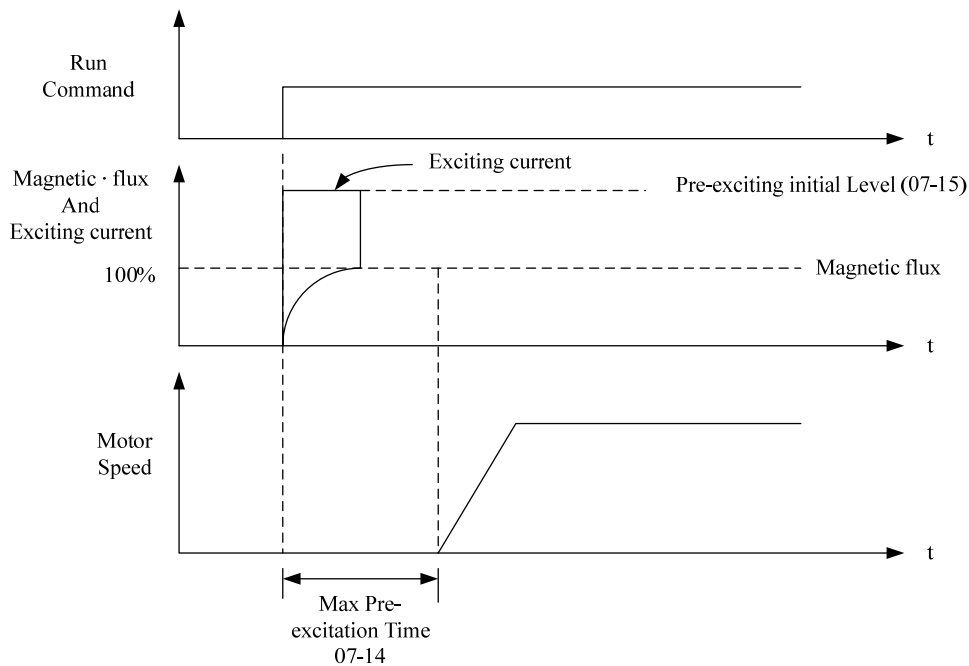

Figure 4.3.62 Pre-excitation operation
. As Figure 4.3.62 shows, after the flux reaches 100%, set pre-magnetizing time. The time that the flux requires is the function value of motor's electrical time constant.
(2) Pre-excitation initial level (07-15)
- .When 100% of the flux has been established and the pre-excitation current backs to 100%, the pre-excitation is completed. Please refer to the following figure 4.3.62.